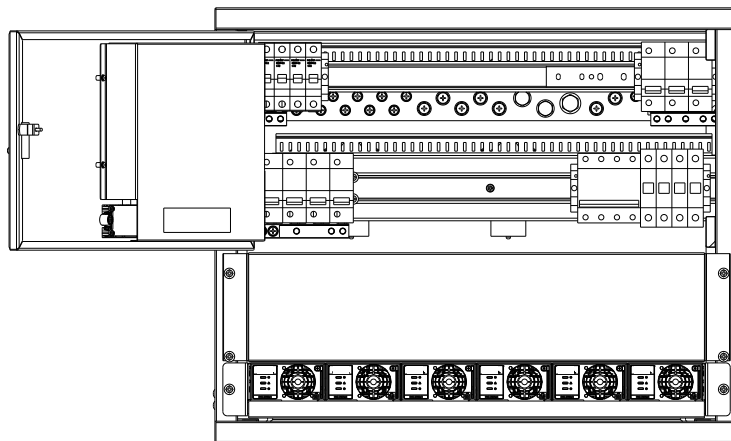

Figure 2-8 Mounted rectifiers
3. Push the handle into the front panel to lock the rectifier to the cabinet. Fix the fixing screw of the handle with a cross head screwdriver. The mounted rectifiers are shown in Figure 2-8.
1. The batteries may have dangerous current. Before connecting battery cables, make sure that the battery fuses at the system side (shown in Figure 2-8) and the battery MCBs at the battery side are switched off. If there are no battery MCBs at the battery side, users should disconnect any one of the connectors between battery cells to avoid live state of the power supply system after installation.